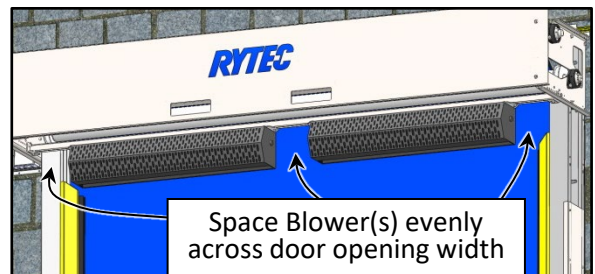

Figure 43
4. Space the blower(s) so that when mounted to the head assembly they are evenly spaced along the door width. Loosen fasteners and adjust as required. Tighten all fasteners securing the Blower Assembly and brackets in place. (See Figure 43)